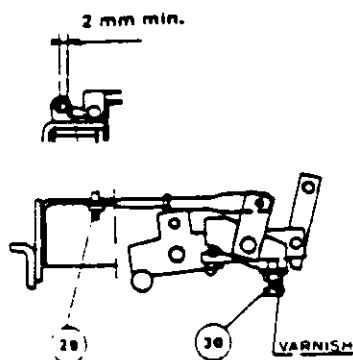

Fig. 18
- 2) Inspection. Place breaker in latched position as illustrated in Fig. 18. Check for minimum clearance of 2 mm (0.079 inch).